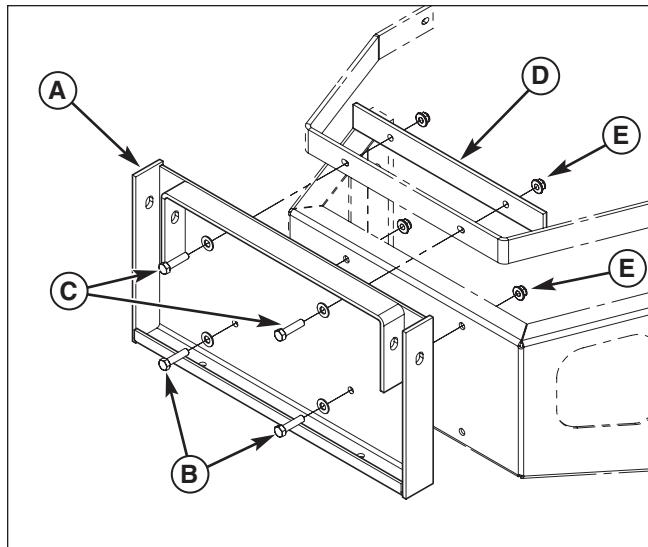

Figure 32. Install Collector Mount Plate
- 2 .Install the collector mount plate (A, Figure 32) on to the lower bumper and secure with the previously removed 3/8" bolts, 3/8" washers (B) and new 3/8-16 nylock flange nuts (E).